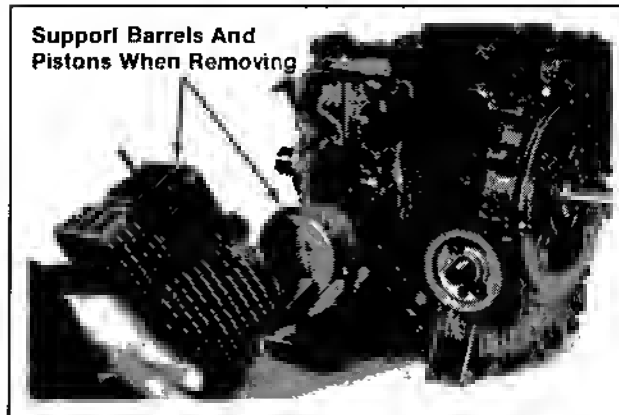

Figure 9-24. Removing Cylinder Barrels.
3. Support the weight of barrels with hands, and carefully pull the barrels from the studs and pistons. Refer to Figure 9-24.